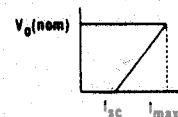

FIGURE 5
2. Foldback current limiting is accomplished in the regulators as shown in Fig. 5.